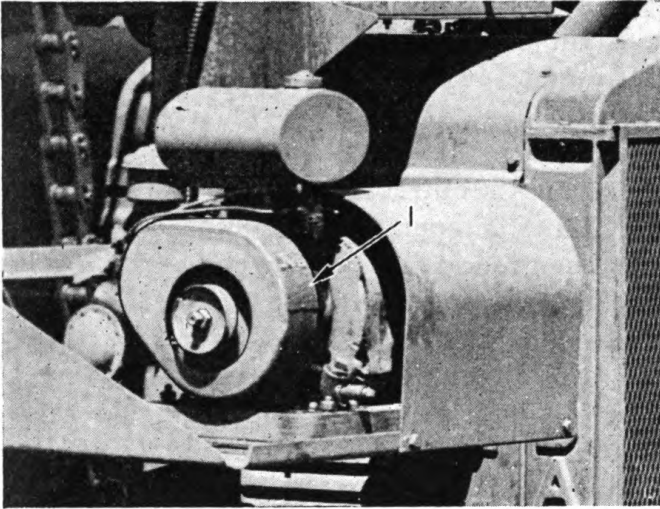

Figure 13
The loader is equipped with a complete lighting system to supply adequate light for night operation. (When used with travel dryer, lights are also furnished for the dryer from the loader). The system consists of a gasoline engine driven generator (1) Figure 13, wiring, fuse and outlet boxes, light brackets, lights, and with water-proof sockets. The engine and generator unit is mounted on the loader main frame on the side opposite the operator.